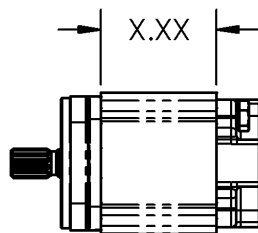

Figure 2 – Pump identification points
- Look for a small part number ID plate of the top of the pump body (Figure 2).
- Measure the length of the pump body as shown in Figure 2.